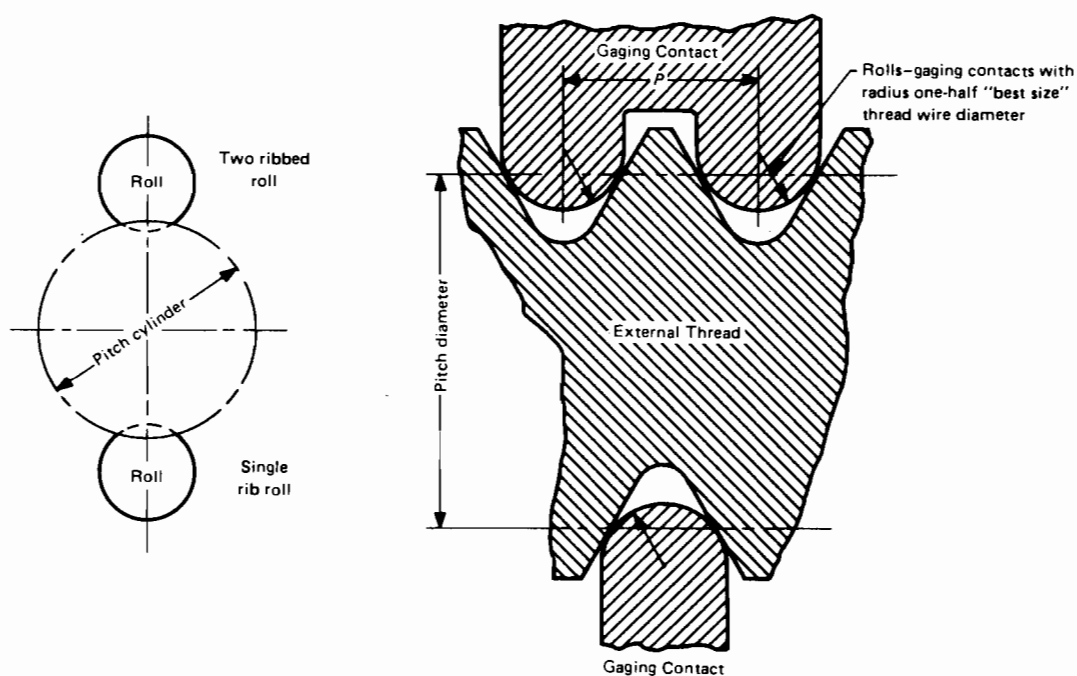

FIG. 23 THREAD SNAP GAGES — MINIMUM-MATERIAL
5.6.3 Thread Form. The specifications for radius type rolls are shown in Fig. 23.